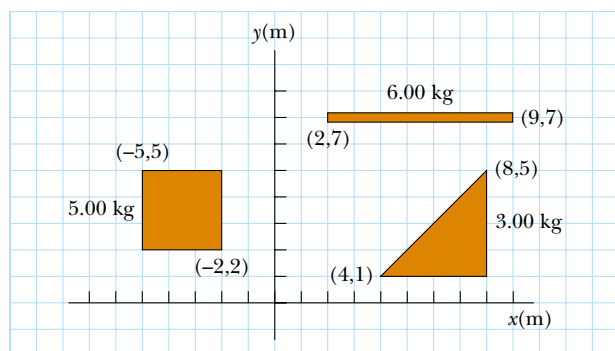

Figure P12.8
8. Figure P12.8 shows three uniform objects: a rod, a right triangle, and a square. Their masses and their coordinates in meters are given. Determine the center of gravity for the three-object system.